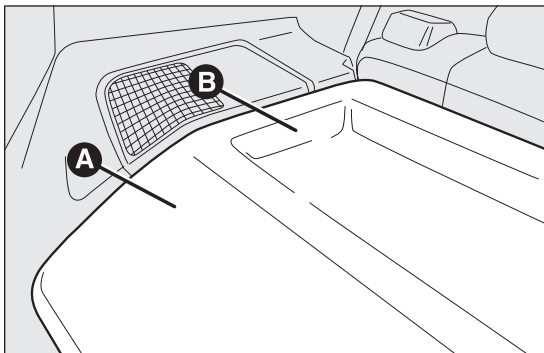
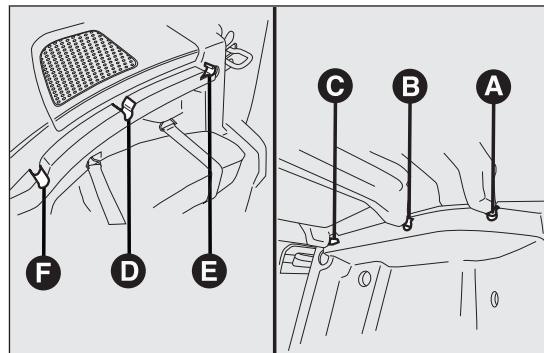

fig. 70
fig. 71
The parcel shelf fig. 70 consists of two parts.
- ❑ open the tailgate and lift the front part A fig. 70 by releasing the pin A fig. 71 from the seat F fig. 71;
- ❑ lift the rear part B fig. 70 by releasing the pins B and C fig. 71 from the seat D and E fig. 71.